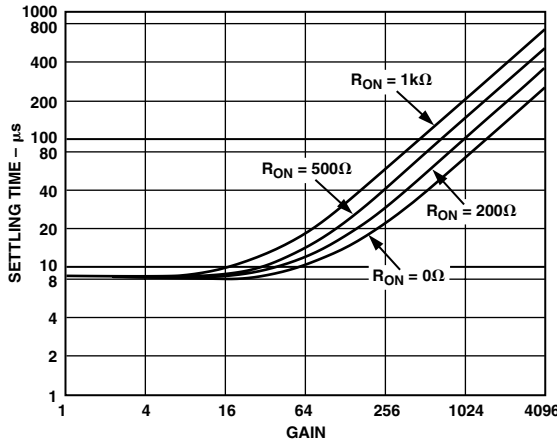

Figure 40. Time to 0.01% of a 20 V Step Input for SPGA with AD625
- \*The frequency response and settling will be affected by the ON resistance and internal capacitance of the multiplexer. Figure 40 shows the settling time vs. ON resistance at different gain settings for an AD625 based SPGA.